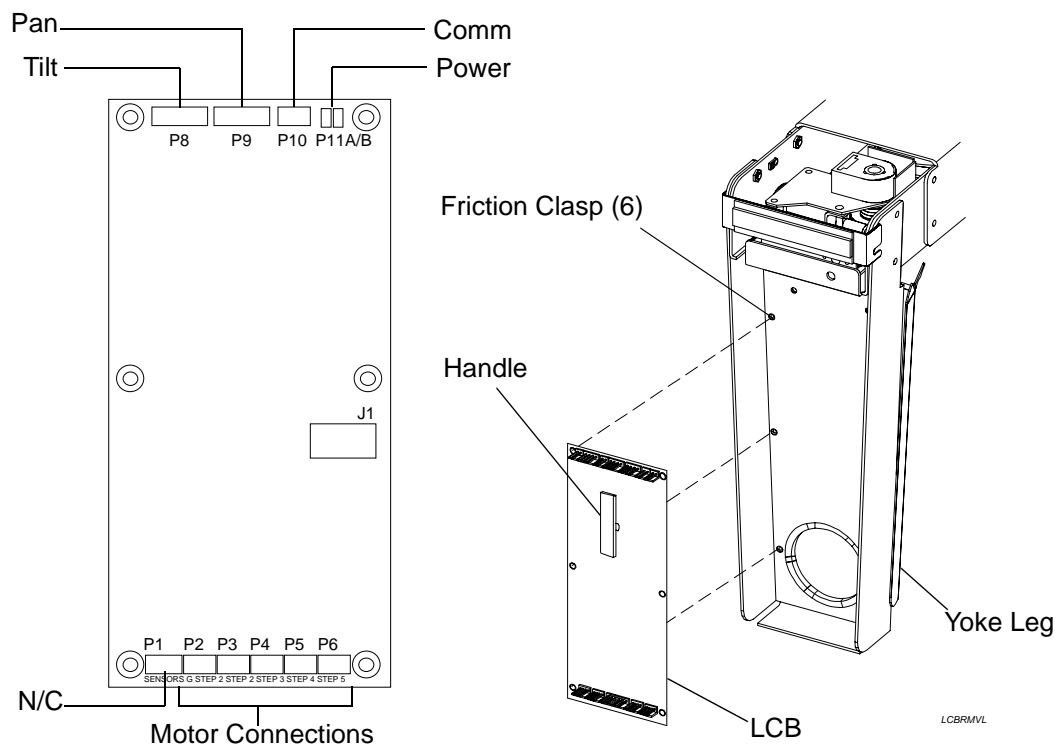

Figure 2-27: LCB PCB Replacement
Step 3. At LCB, disconnect all cables. Figure 2-27.